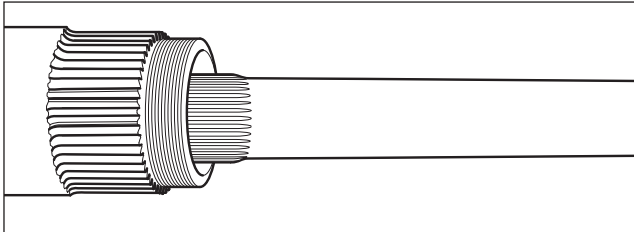

Fig. 3.9
7. Introduce the axle shaft into the housing Fig. 3.9